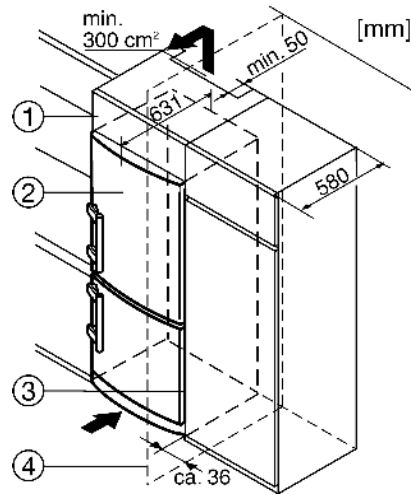

Fig. 11
- (1) Stack cabinet
- (2) Appliance
- (3) Kitchen cabinet
- (4) Wall
The appliance can be inserted into the kitchen units. To match the appliance Fig. 11 (2) to the height of the row of units, a suitable stack cabinet Fig. 11 (1) can be fitted above the appliance.
For use with standard kitchen cabinets (max. depth 580 mm) the appliance can be installed directly next to the kitchen cabinet Fig. 11 (3). The appliance door projects 34 mm laterally and 50 mm in the middle of the appliance relative to the front of the kitchen cabinet. It can be opened and closed perfectly as a result. Important for the ventilation:
If the appliance is installed with the hinges next to a wall Fig. 11 (4), the distance between appliance and wall has to be at least 36 mm. This corresponds to the projection of the handle when the door is open.